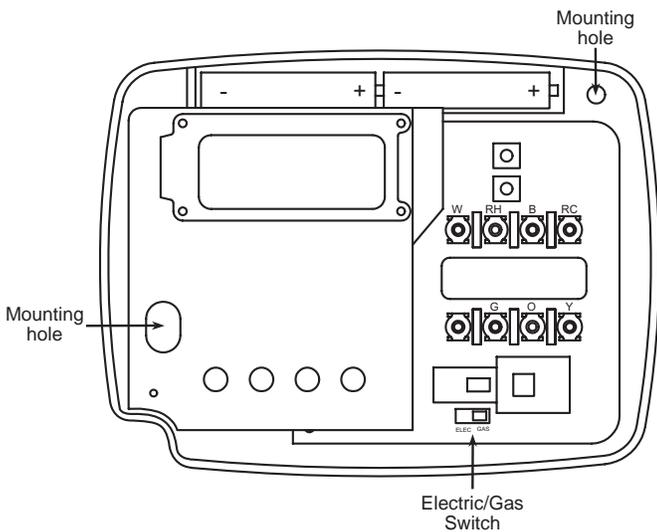

Figure 1. Thermostat base
This thermostat is configured from the factory to operate a heat/cool, fossil fuel (gas, oil, etc.), forced air system. It is configured correctly for any system that DOES NOT require the thermostat to energize the fan on a call for heat. If your system is an electric or heat-pump system that REQUIRES the thermostat to turn on the fan on a call for heat, locate the **GAS/ELECTRIC** switch (see fig. 1) and switch it to the **ELECTRIC** position. This will allow the thermostat to energize the fan immediately on a call for heat. If you are unsure if the heating/cooling system requires the thermostat to control the fan, contact a qualified heating and air conditioning service person.
5. Fasten base loosely to wall, as shown in fig. 1, using two mounting screws. Place a level against bottom of base, adjust until level, and then tighten screws. (Leveling is for appearance only and will not affect thermostat operation.) If you are using existing mounting holes, or if holes drilled are too large and do not allow you to tighten base snugly, use plastic screw anchors to secure subbase.
This thermostat requires 2 "AAA" alkaline batteries to operate. If the word low "**LO BATT**" is displayed, the batteries are low and should be replaced with fresh "AAA" Energizer® alkaline batteries. To replace the batteries, install the batteries along the top of the base (see fig. 1). The batteries must be installed with the positive (+) ends to the right.